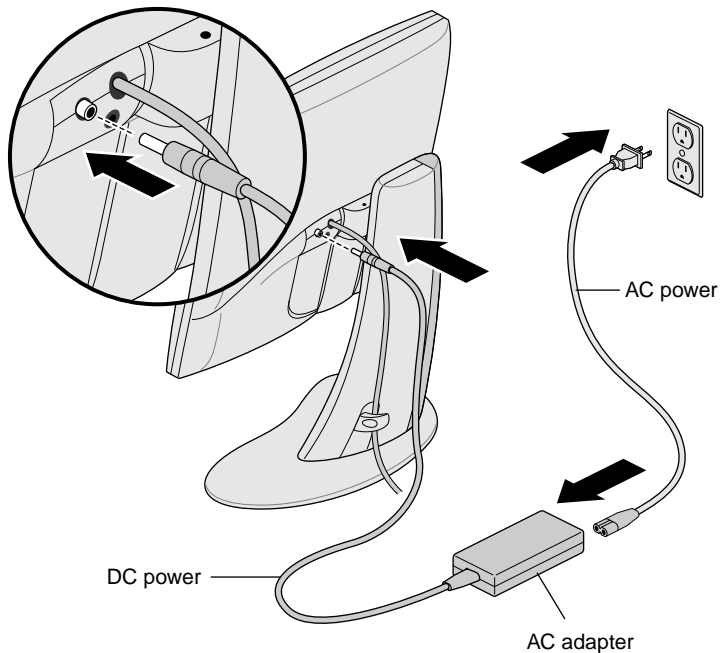

Figure 1-2 Connecting the Power Cable and AC Adapter
- Connect the DC power cable from the AC adapter to the DC input power connector on the back of the flat panel monitor, as shown in Figure 1-2.